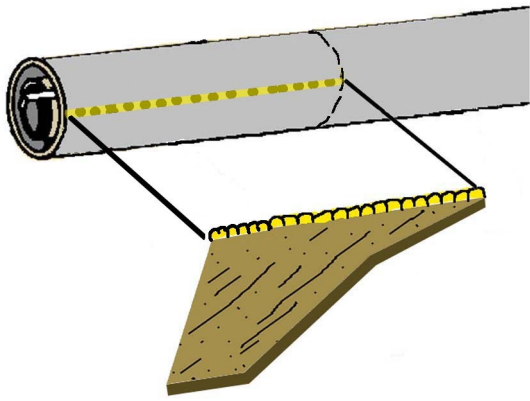

Figure 7
- **Step 13** As shown in Fig. 7, apply a narrow bead of full-strength glue to one of the fin alignment lines, and to the root edge of one fin. Press the root edge of the fin against the body tube over the alignment line, with the trailing edge of the fin even with the edge of the body tube. Hold the fin in place for about 15 seconds before releasing it. Use a moist, soft-bristle brush to smooth down the glue which squeezes out from the joint. Slide the fin alignment guide down from the top of the tube and over the fin, carefully adjusting the angle to fit the slot. Allow this to dry in a horizontal attitude, with this fin located TDC, for about 30 minutes before removing the guide. Repeat this sequence for each remaining fin.